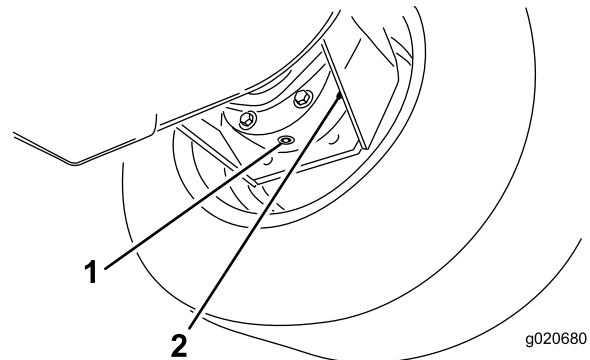

Figure 68
3. Place a drain pan under the brake housing, remove the drain plug, and allow the oil to drain (Figure 68).